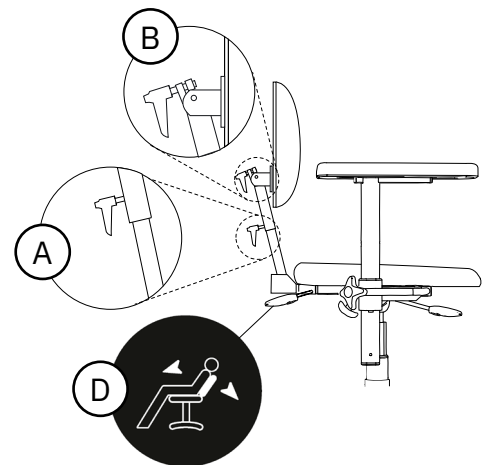

Figure 5.28. Comfort backrest mechanism.
Comfort can be adjusted in height (A), angle of backrest (B) and angle of back recliner (C), see Figure 5.28. The gas spring-controlled back recliner can be adjusted with the lever under the seat (standard) or the lever under the armrest (optional). The back recliner can be adjusted in the range of 3° forwards to 40° backwards.